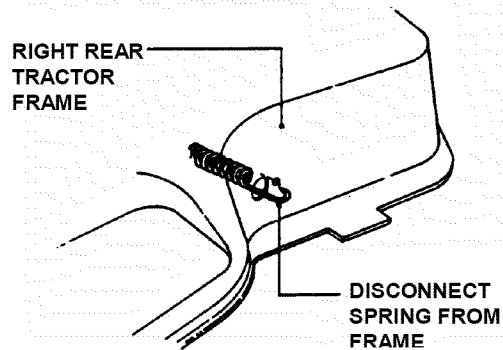

FIGURE 4.33
3. Disconnect traction belt idler pulley spring from tractor frame. See Figure 4.33.